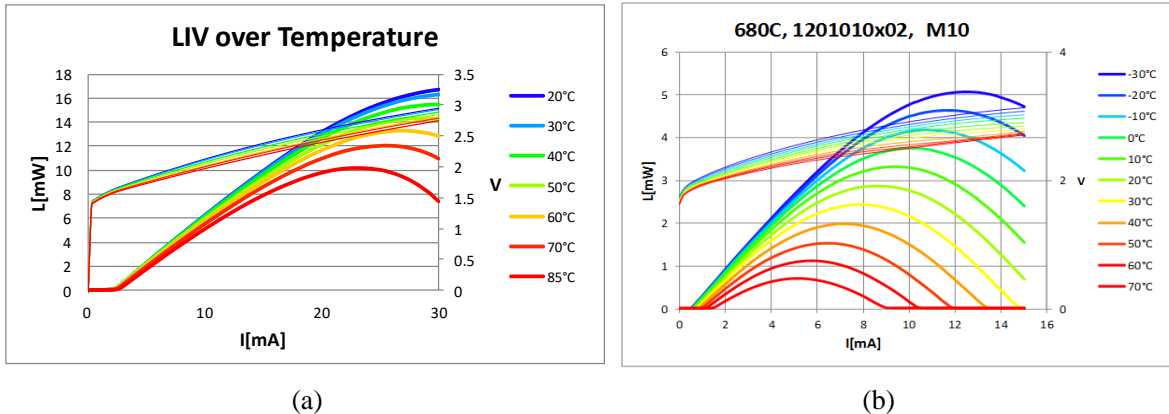

Figure 2: Light Output and Voltage versus Current (LIV) Over Temperature for (a) an 850nm multi-mode VCSEL and (b) a 680 nm multi-mode VCSEL.
Of course, the thermal rollover characteristics of a VCSEL will be dependent on the operating temperature. Examples of the LIV curves for (a) an 850nm multi-mode (MM) VCSEL and (b) a 680nm MM VCSEL are illustrated in Figure 2. It can be seen that as the temperature is increased, P_{max} & I_{max} decrease.